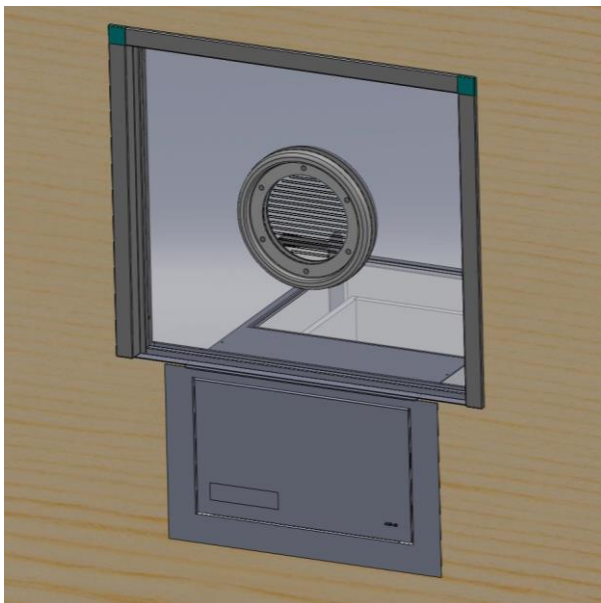
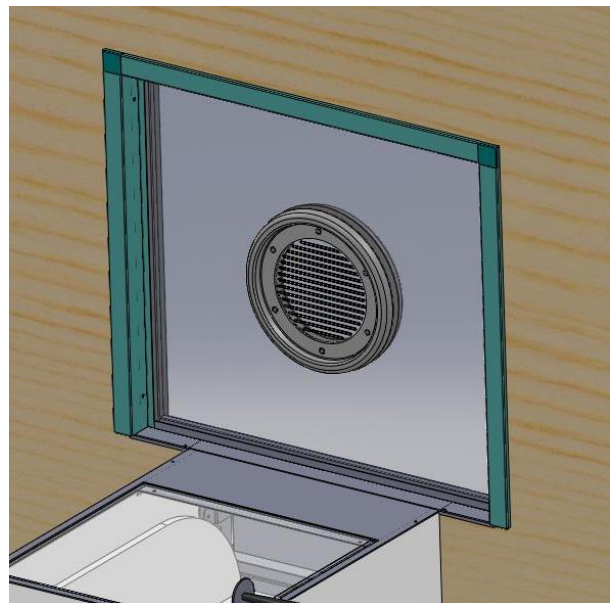

Figure 13. Insert the exterior bracket (shallower ledge)
Figure 14. Insert the interior bracket (deeper, overlapping)
- H. While holding the Tempered Glass Window in place, insert the Glass Retaining Brackets into the cut-out (**Figure 13 and Figure 14**). Press the brackets together and align the mounting holes (see **Figure 5** in **Section 3.2 Unpacking**) to verify the proper positioning of the mounting plates. Mark the positioning of the plates if needed.